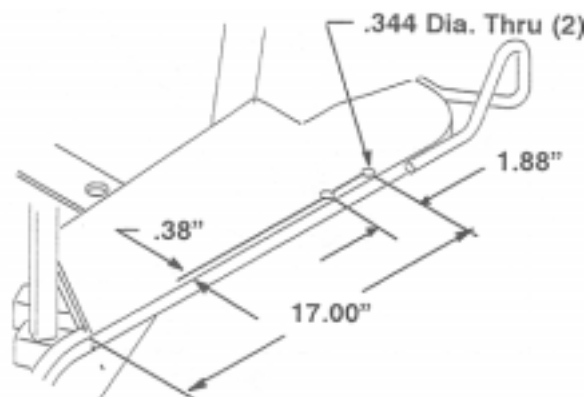

Figure 6
1. Refer to the dimensions in Figure 6 to mark, locate, and drill 2 holes (11/32 inch diameter) through the right floor board.